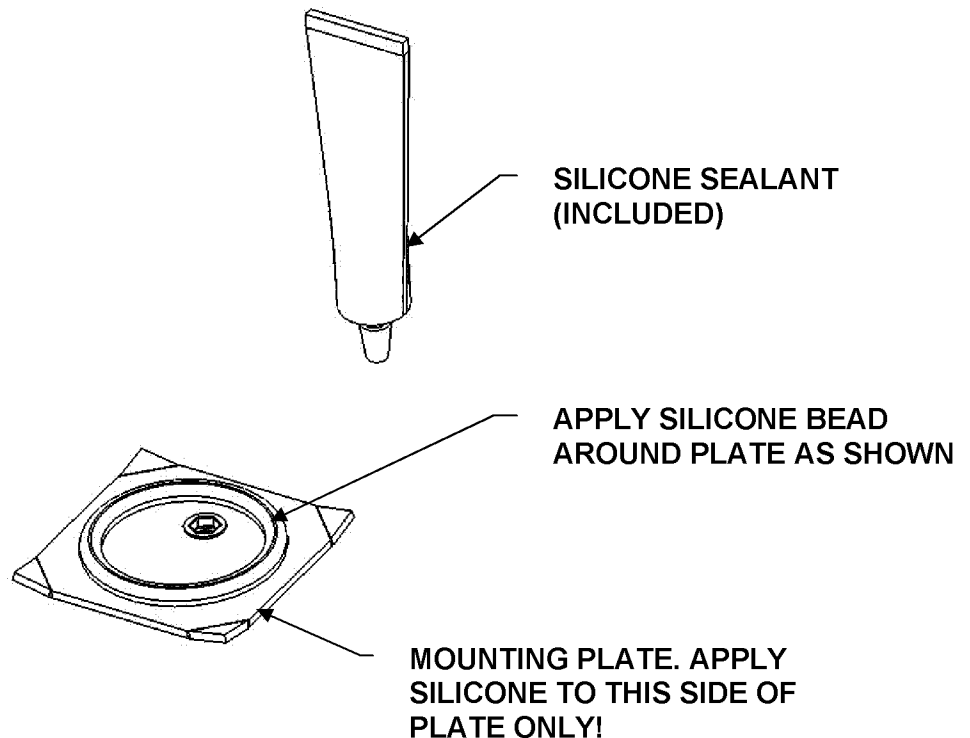

FIGURE 7. SILICONE SEALANT APPLICATION TO MOUNTING PLATE.
- 2) APPLY SILICONE SEALANT (INCLUDED) FULLY AROUND THE PERIMETER TO ONE SIDE OF EACH MOUNTING PLATE, AS SHOWN IN FIGURE 7.